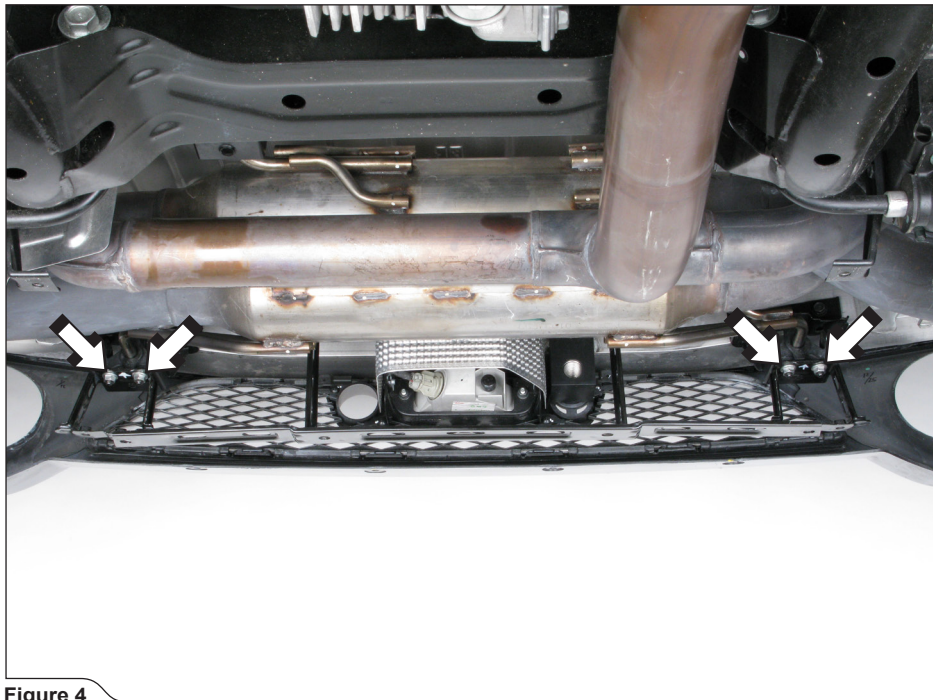

Figure 4
3. Unscrew the marked nuts on both sides of the vehicle and remove the bumper brackets (Figure 4).